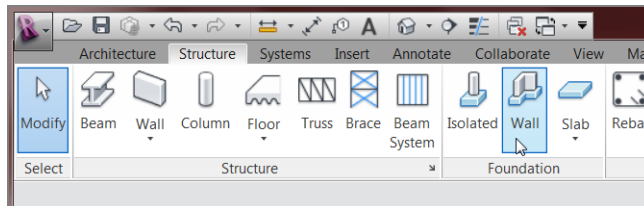

FIGURE 8.58: Adding a wall foundation
6. On the Foundation panel of the Structure tab, click the Wall button, as shown in Figure 8.58.